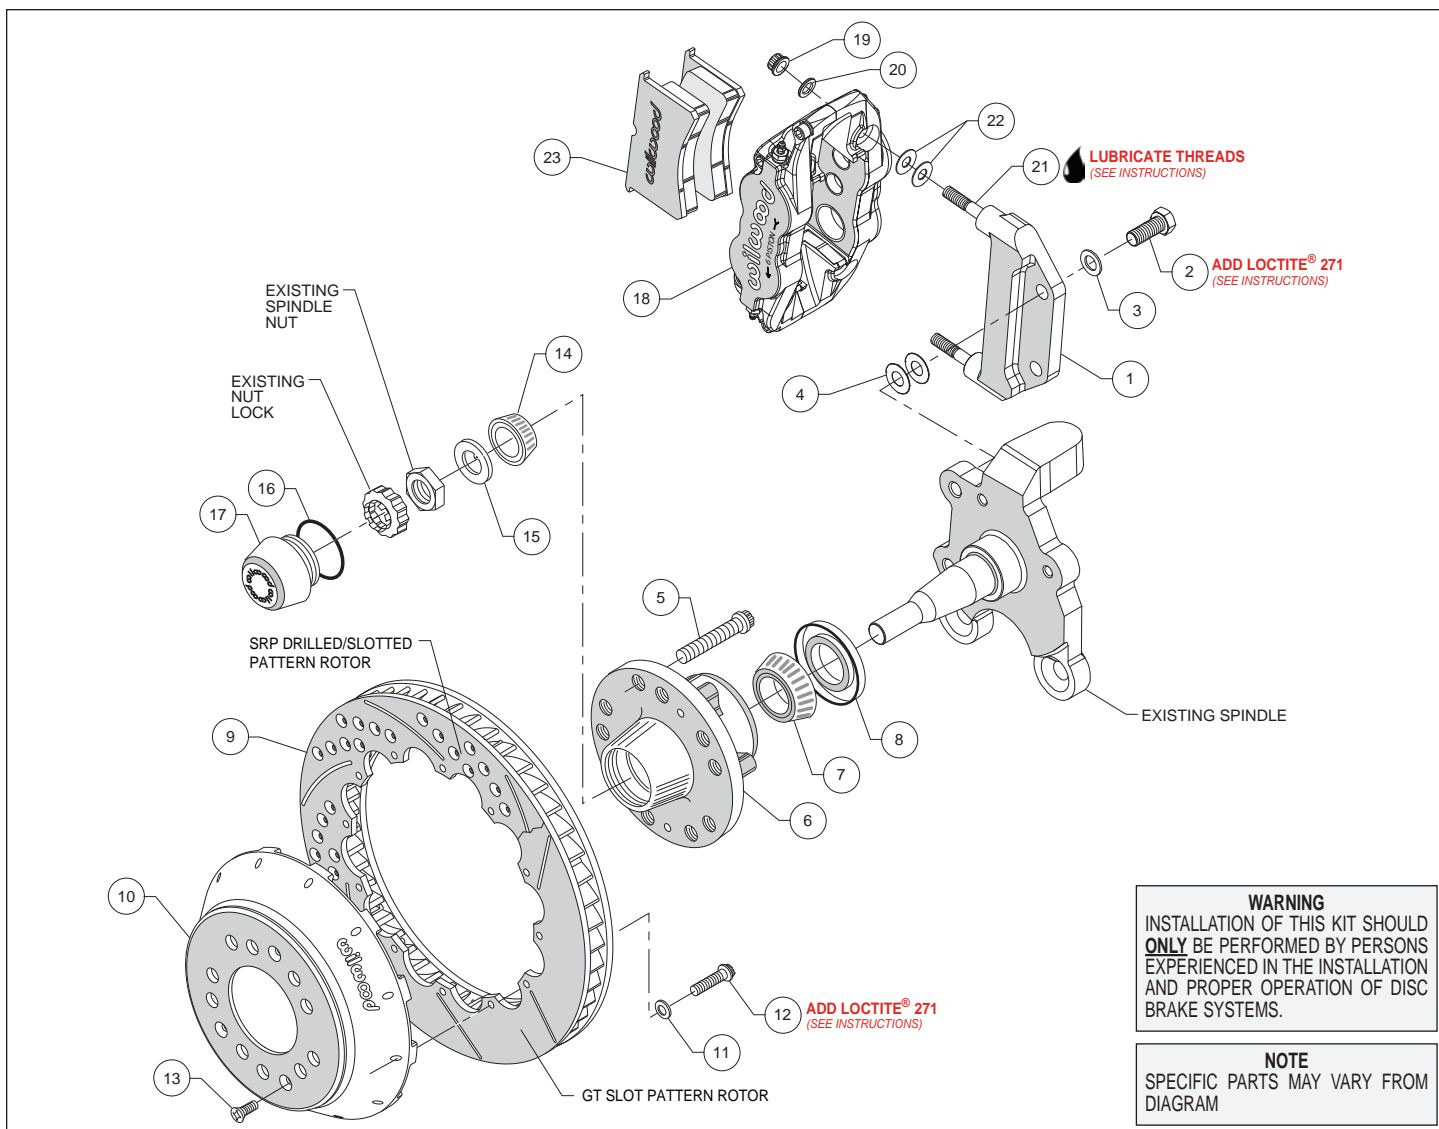
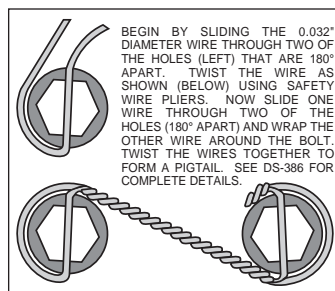

Figure 1. Typical Installation Configuration
Figure 3. Safety Wire Diagram
**Assembly Instructions** (numbers in parenthesis refer to the parts list on the preceding page, and Figure 1):
- The caliper mount bracket (1) should initially be installed with clean, dry threads on the mounting bolts. Orient the bracket as shown in Figure 1, and install using bolts (2) and washers (3). Initially place two .015" thick shims (4) on each bolt between the bracket and upright, Figure 1 and Photo 1. Temporarily tighten the mounting bolts. **NOTE:** *The bracket must fit squarely against the mount bosses on the upright.* Inspect for interference from casting irregularities, machining ridges, burrs, etc. Later, after the caliper alignment has been checked, the mount bolts will be secured using red *Loctite*® 271.
- Pack the large inner bearing cone (7) with high temperature disc brake bearing grease (available from your local auto parts store) and install into the backside of the hub (6), Photo 3.
- Install the grease seal (8) by pressing into the backside of the hub (6), flush with the end of the hub, Photo 3.
- Orient the rotor (9) and the hat (10) as shown in Figure 1 and Photo 4. Attach rotor to hat using bolts (12) and washers (11). Using an alternating sequence, apply red *Loctite*® 271 to the threads and torque bolts to 155 **in-lb**. For an added measure of security, the bolts may be safety wired using standard 0.032 inch diameter stainless steel safety wire as shown in Figure 3. Refer to Wilwood's data sheet DS-386 (available at [www.wilwood.com/Pdf/DataSheets/ds386.pdf](http://www.wilwood.com/Pdf/DataSheets/ds386.pdf)) for complete safety wire installation instructions.
- Slide the hat/rotor assembly (9/10) onto the hub (6) taking care to align the small countersunk holes in the hat (10) with the small threaded holes in the hub. **NOTE:** The hat must fit flush against the hub face or excessive rotor run out may result. Install three flat head screws (13) through the small holes in the hat (10), Photo 6, and torque to 85 in-lb.
- NOTE:** This kit contains distinct right and left hand calipers that must be mounted in a specific direction, as described below. Lubricate the caliper mounting studs (21) with lightweight oil. Initially place two .035" thick shims (22) on each stud between the caliper and the bracket, as shown in Figure 1 and Photo 7. Mount the caliper (18) onto the bracket (1) using lock nuts (19) and washers (20), Figure 1. Ensure that the caliper is mounted so the largest pistons are at the rotor exit end of the caliper, in relation to the direction of rotor rotation. Temporarily tighten the lock nuts and view the rotor through the top opening of the caliper. The rotor should be centered in the caliper, Photo 8. If not, adjust by adding or subtracting shims (4) between the bracket and the upright. Always use the same amount of shims on each of the two mounting bolts. Once the caliper alignment is correct, remove the bracket mounting bolts one at a time, apply red *Loctite*® 271 to the threads, and torque to 65 ft-lb.